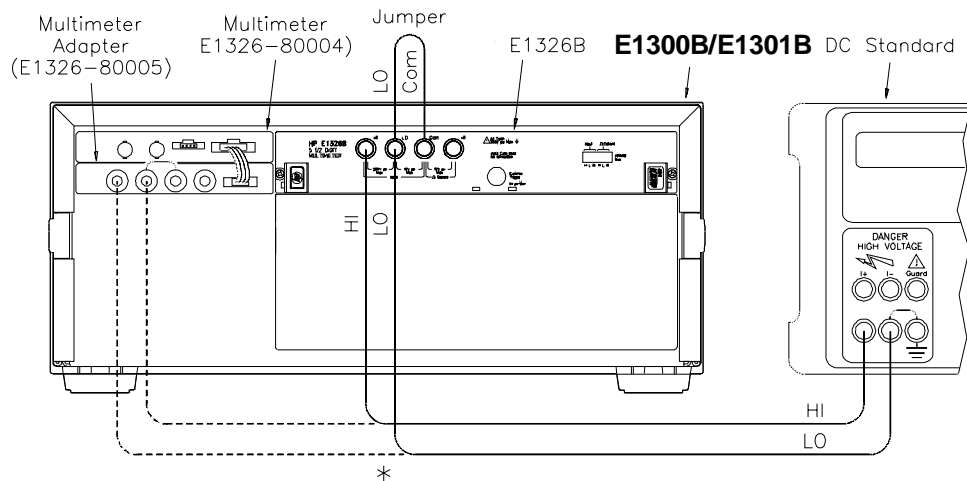

Figure 4-2. DC Voltage (DCV Input) Setup
1. Connect the equipment as shown in Figure 4-2. You can connect to the E1326B OR the E1326-80005 terminals, but not to both.